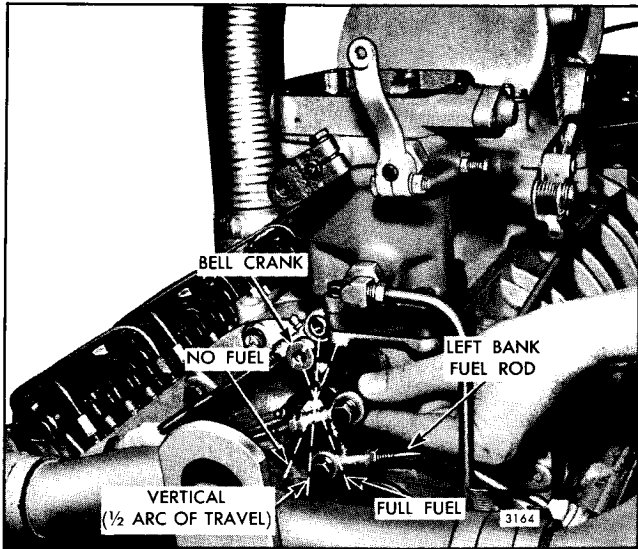

Fig. 3 - Adjusting Length of Left Cylinder Bank Fuel Rod
6. Disconnect the right cylinder bank fuel rod at the bell crank. Then, adjust the length of the left fuel rod until the bell crank arms are in a vertical position, at one-half of the arc of travel. The grease fitting on the end of the fuel rod must be in an upright position (see Fig. 3). Tighten the fuel rod end lock nut securely to retain the adjustment.